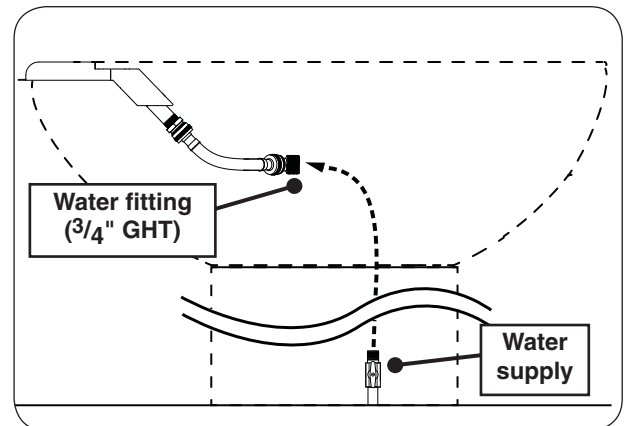

Fig. 30-2 Connect water supply (if applicable)
2. Plumb the water supply to the  $\frac{3}{4}$ " GHT fitting (see Fig. 30-2).